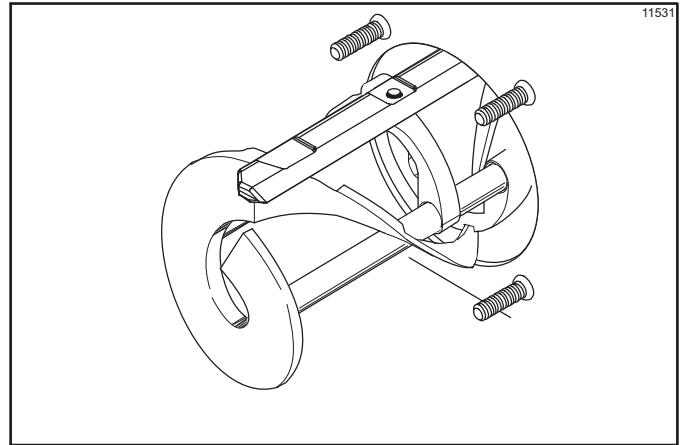

Figure 6-5
8. Holding the rear blade on the beater, slide it into the freezing cylinder halfway. Install the front scraper blade over the front holding pin. (See Figure 6-5.)